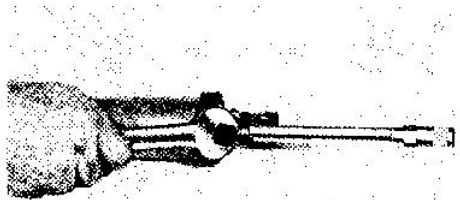

FIG. 15 - Remove ball check plug.
- a. With 3/4" open end wrench, remove plug (Fig. 15).